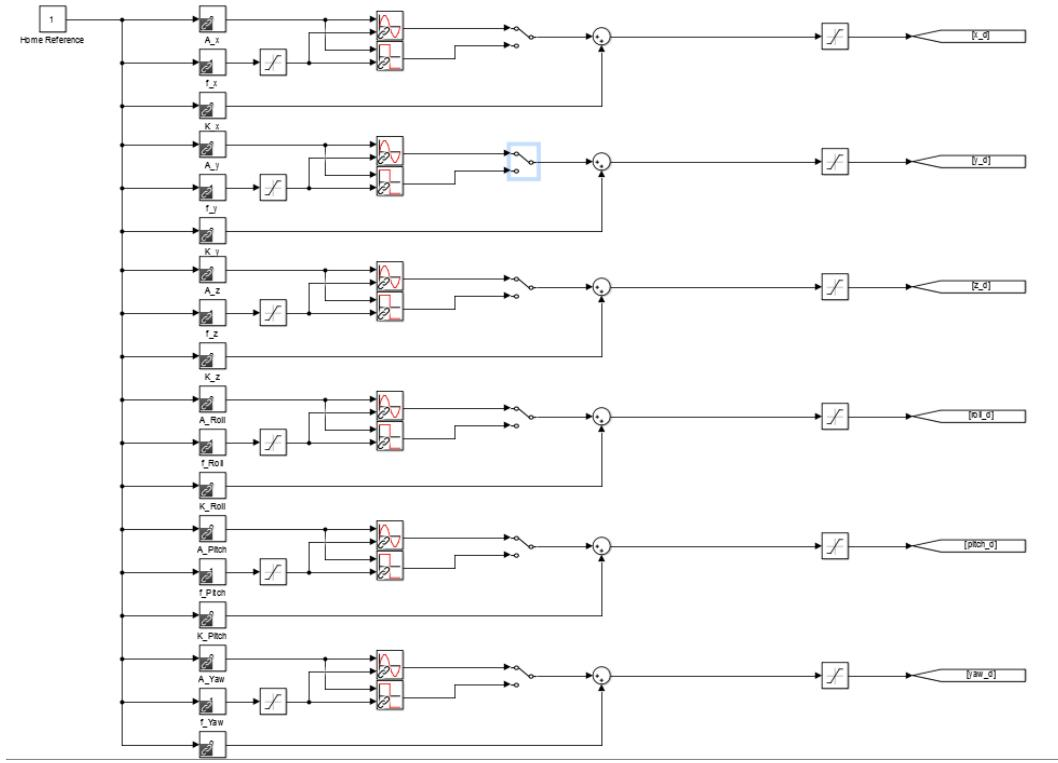

Figure 2.6: Hexapod world coordinate position commands
The end-effector world coordinate commands are given in the *Desired Position Reference* subsystem block shown in Figure 2.6. The setpoint for each of the end-effector's axes - X, Y, Z, Pitch, Roll, and Yaw - can be set to either a sine wave or square wave. Set the amplitude and frequency of the signal using the Slider Gain blocks. For example, set gain block A_x to 2 and gain block f_x to 0.5 to apply a ± 2 mm sine wave at 0.5 Hz.
7. Change the values of the Slider Gain blocks in the *Desired Position Reference* block, shown in Figure 2.6 subsystem, gradually to begin commanding a position command to the top stage.